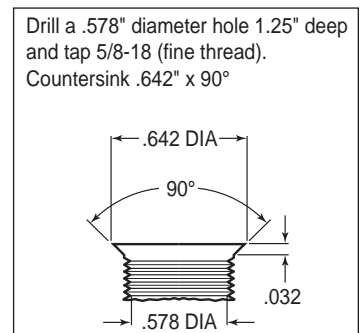

Figure 3. Drill and Tap Detail
•**NOTE:** 1964-66 spindles may require the following modifications (reference Figure 1 and Figure 3): Top anchor pin hole (Z) must be drilled and tapped to the dimensions as outlined in Figure 3. Bottom rear steering arm bolt hole (Y) in the spindle and steering arm must be enlarged to .50" by drilling. A 1/2-20 backing nut (not supplied in kit) will need to be acquired to torque bracket / steering arm bolt (supplied in kit).